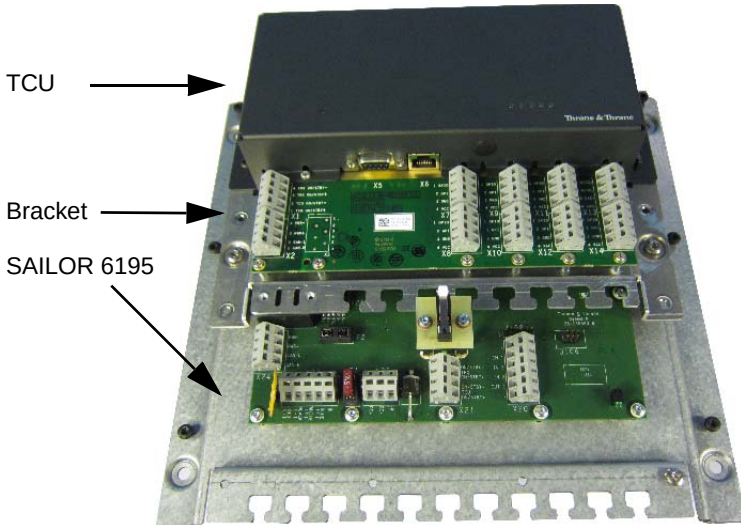

Figure 4: Mounting the TCU on the SAILOR 6195
5. Place the TCU on top of the SAILOR 6195, fitting it onto the bracket on the SAILOR 6195 on each side as shown in Figure 4 below.